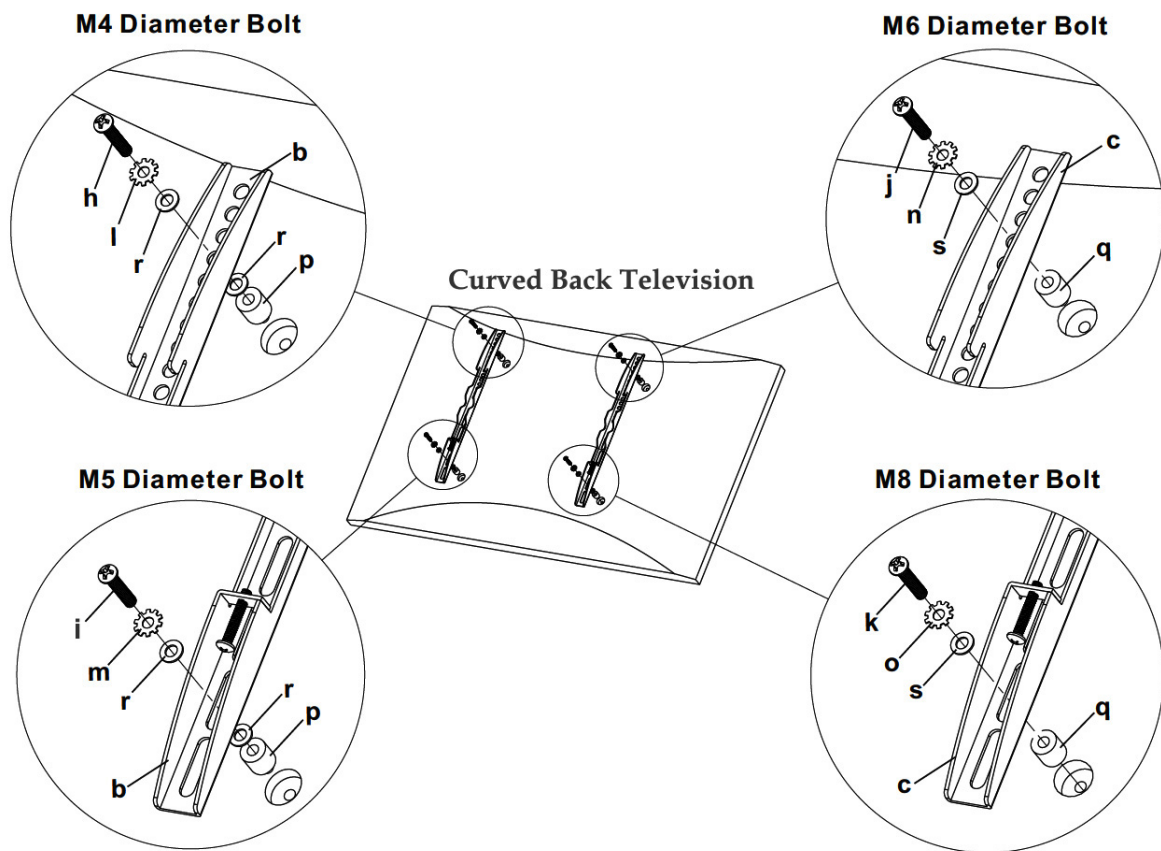

Figure 5
4. Thread the bolts into the TV using the correct lock washer (l, m, n, o), washer (r, s) and spacer (p, q). For the M4x30 Bolt (h) and M5x30 Bolt (i), you will need another washer (r) between the monitor bracket and the spacer. See Figure 5.